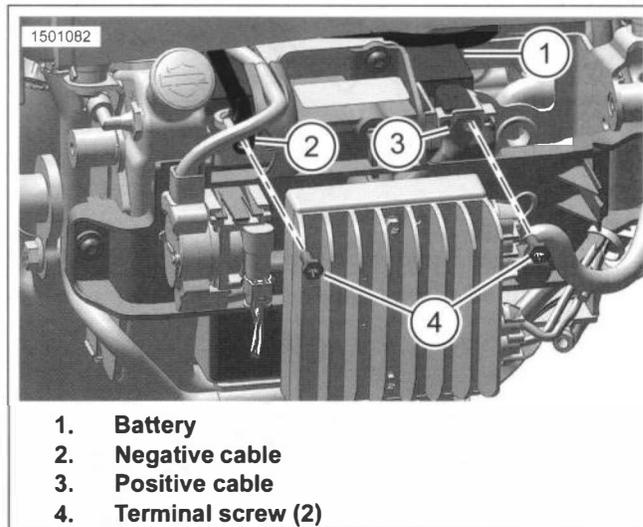
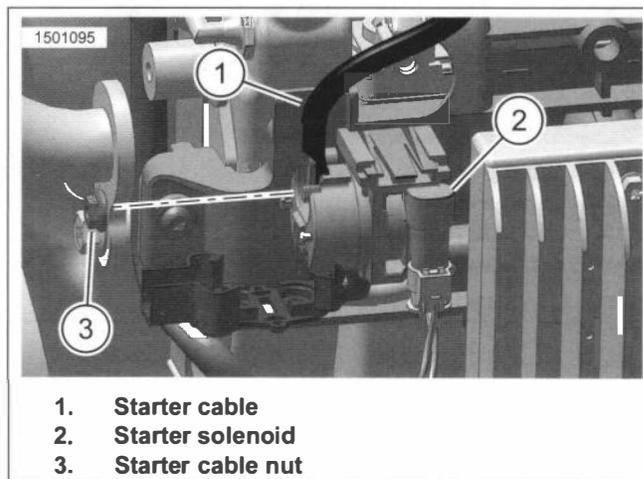

Figure 2-37. Battery Cables
Figure 2-38. Starter Cable
- a. See Figure 2-37. Remove battery negative cable (2) from battery (1).
- b. Remove battery positive cable (3) from battery.
2. See Figure 2-38. Remove starter cable (1) from starter solenoid (2).
- a. See Figure 2-37. Connect battery positive cable (3) to battery. Tighten.
- a. See Figure 2-38. Connect starter cable (1) to starter solenoid (2). Tighten.